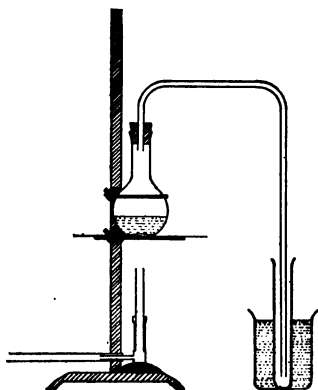

FIG. 96.
a. Distillation of Water. Set up the apparatus of Fig. 96. Half fill the flask with hydrant water, support it on the wire gauze, and attach the doubly bent delivery tube. This reaches to a test tube standing in a beaker (or bottle) of cold water.